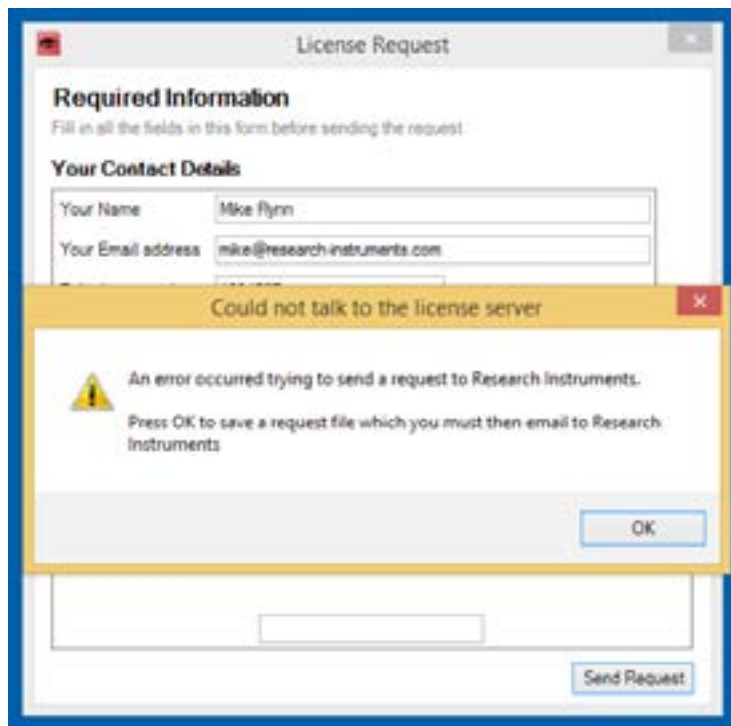

Figure 6-5 A response from the RI license server
5. If internet access is available, a response will be returned by the RI Licensing Server. See Figure 6-5.